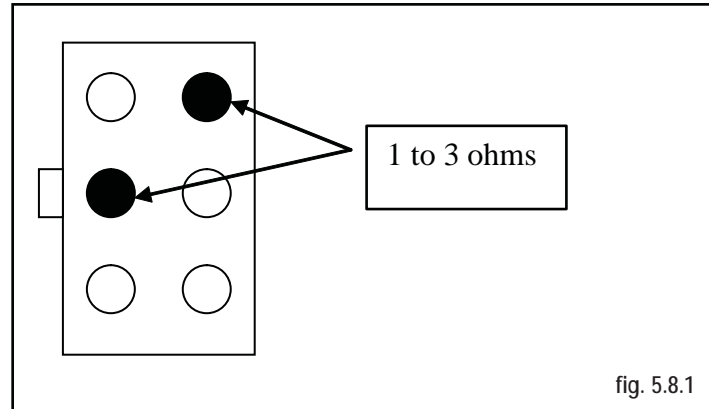

fig. 5.8.1
8. Tilt is in mid-stroke. (Fig 5.8.1)